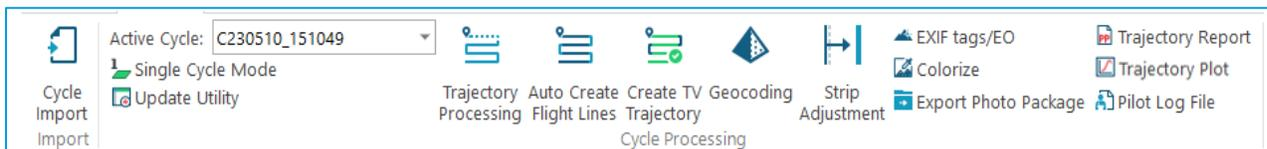

Figure 70 - Create TrueView Trajectories
- 10. Once flight lines have been created, and the edits saved, select **Create TV Trajectories**  from the Sensor tab (Figure 70). The purpose of this step is to use the flight line layer to create a reduced trajectory file from the PostProcessedTraj.txt file for each flight line. Optionally and recommended, you may also update the image EXIF tags at the same time.